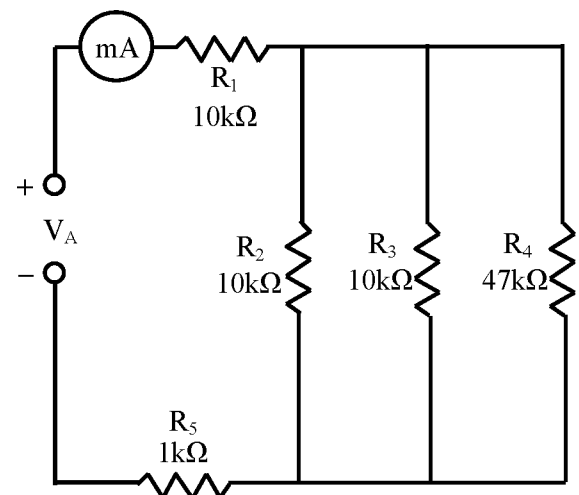

Figure 25-1
1. Connect the circuit as shown in Figure 25-1.